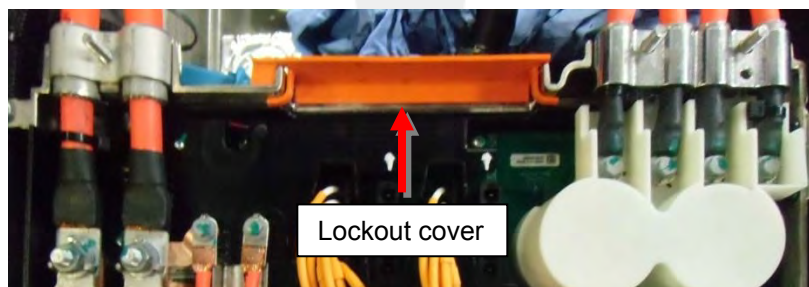

Figure 10
22. Remove the lockout cover from the LH side of the HVJB (Figure 10).